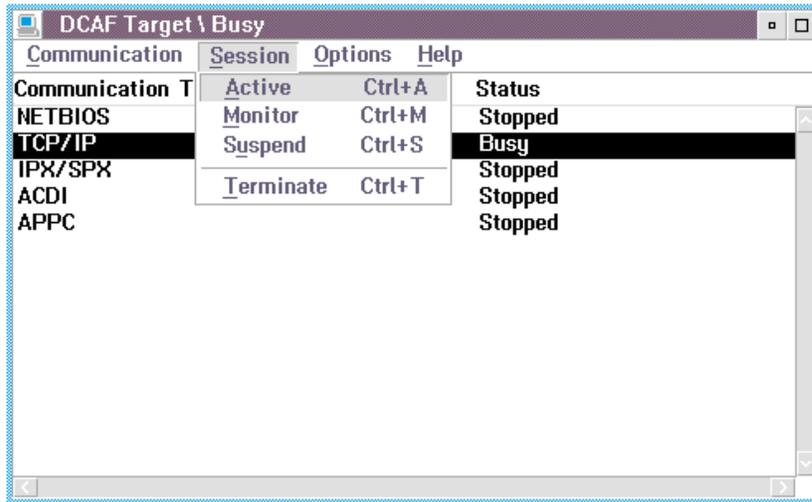

Figure 163. Active Session
3. From the DCAF Target \ Busy window, select the Session window, then select **Active** or **Monitor** (see Figure 163).